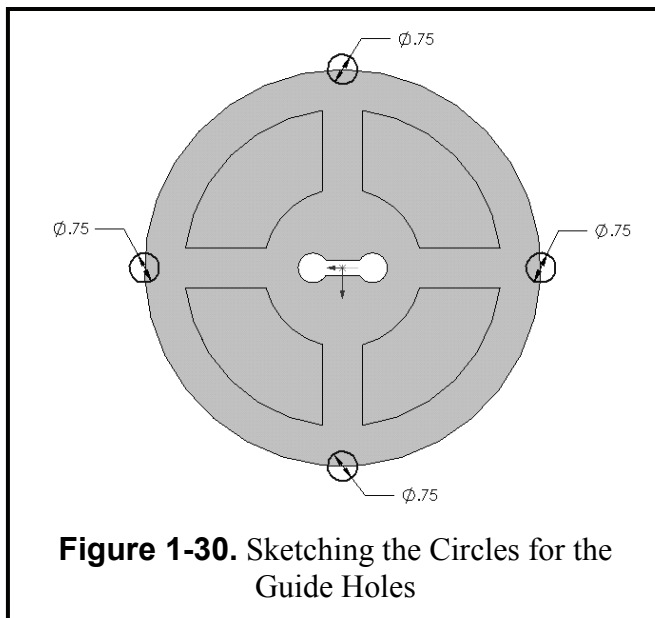

**Figure 1-29.** Geometry and Dimensions for the Lift Hole
Now create the lift hole in the middle of the plate. Click the cursor on the top center surface of the cover plate (it should turn *cyan*). Also, select a **Top** view orientation. You might also need to **Zoom** in to see the center portion better. Click the **Sketch** icon to get into the sketching mode. Since the lift hole is symmetric about the origin, you can use a mirror function. So start by drawing a vertical **Centerline** (CL) through the origin. Next go to **TOOLS – SKETCH TOOLS - DYNAMIC MIRROR**. There should be short horizontal lines on either end of the centerline you drew. Every operation you perform on the right side is duplicated on the left side. Now, draw a small **Circle** to the right side of the centerline. Then draw two parallel **Lines** that start at the centerline and go through part of the circle, as indicated in **Figure 1-29**. Now apply the following inch **Dimensions** to the sketch geometry.